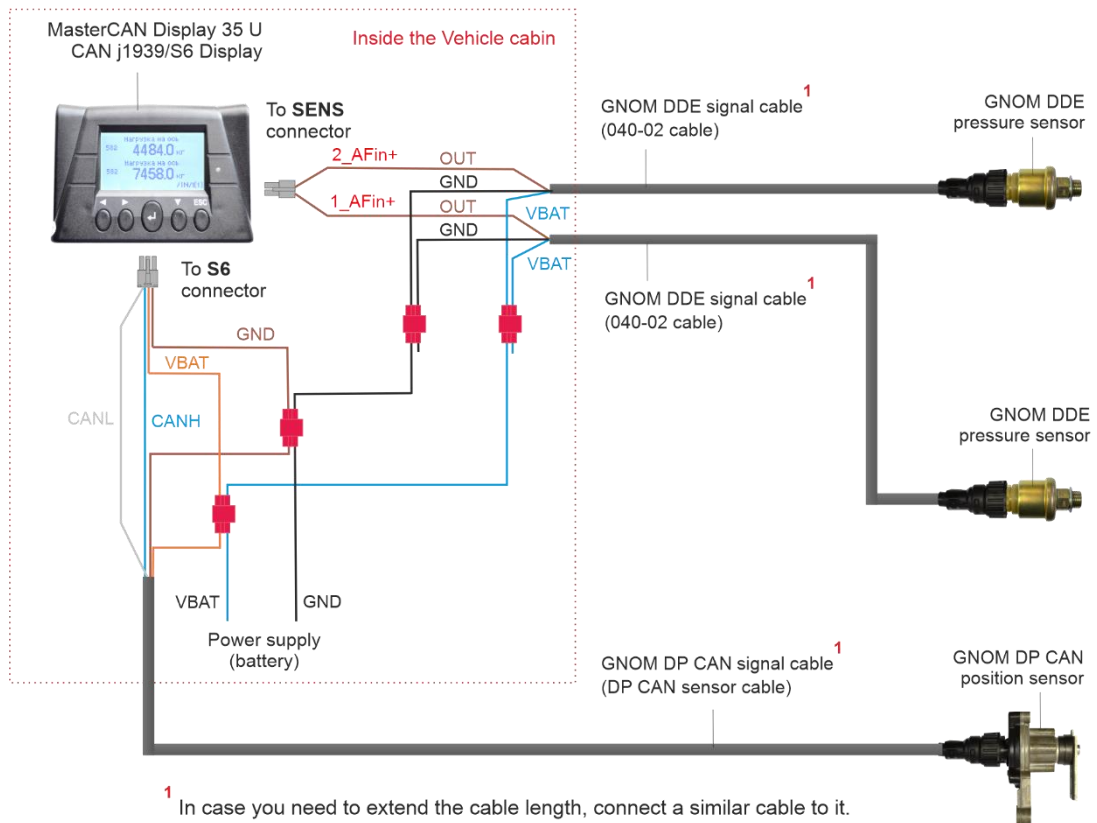

Figure 43 — Example of the connection diagram of two GNOM DDE analog sensors and one GNOM DP CAN digital sensor to MasterCAN Display 35 U
**IMPORTANT:** In order to display readings of GNOM DP CAN digital sensor, you need to employ **only** the model of CAN j1939/S6 bus display **MasterCAN Display 35 U («Universal»)**. Besides, you can also additionally connect to the display up to two analog GNOM sensors of any models (see figure 43).
Examples of electrical connection of MasterCAN Display 35 for displaying data of axles load received by means of GNOM sensors are provided in figures 43 and 44.